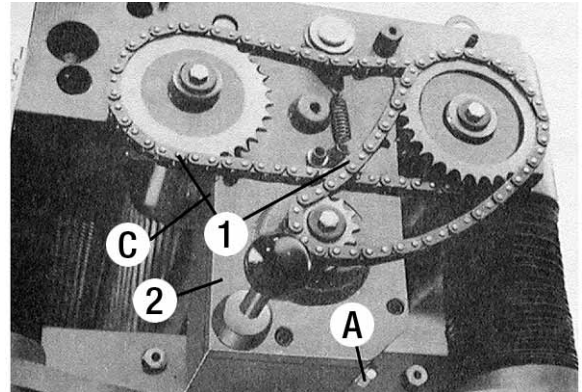

FIGURE 30
1. Remove the drain plug (A) Fig.30 and one of the filter caps (B), drain dirty oil thoroughly.
2. Reinstall and tighten the drain plug (A), remove oil level (C).
3. Fill with clean lubricant through filler cap hole (B) until oil comes out of oil level hole (C).
4. Reinstall and tighten the filler cap (B) and the oil level (C).